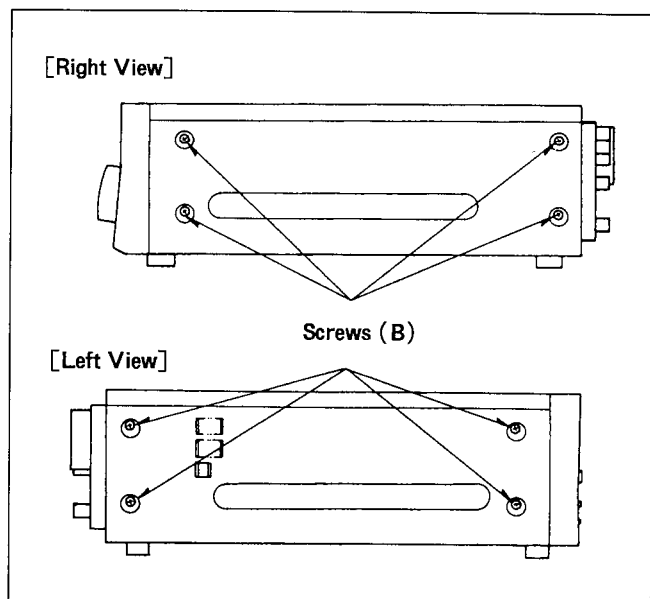

Figure D3
1. Unscrew the 8 screws (B) on the Side Panels. (Figure D3)